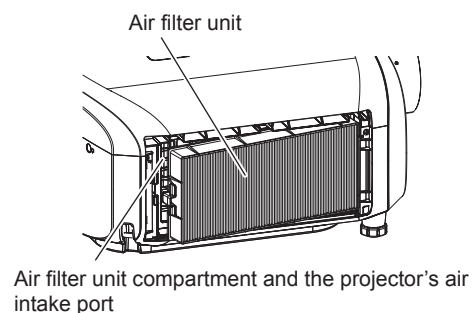

Fig. 3
- After pulling out the air filter unit, remove foreign objects and dust from the air filter unit compartment and the projector's air intake port if there are any. (Fig. 3)